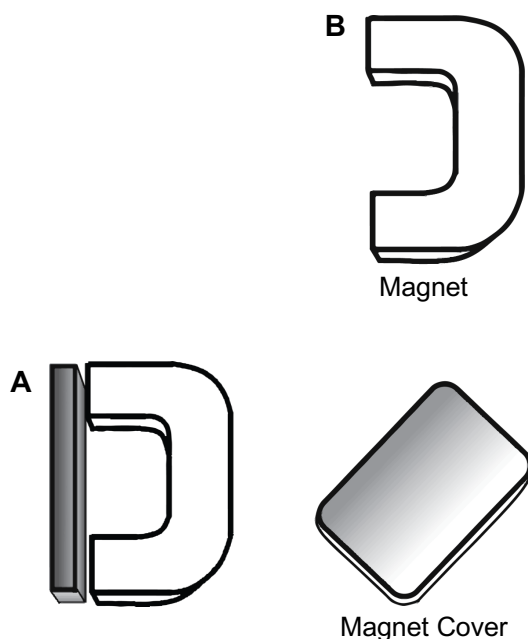

Figure 5.9: Magnet with Cover Attached (A) and Detached (B)
4. Remove the magnet cover, if applicable (see Figure 5.9 below).